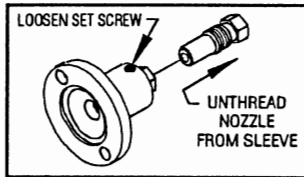
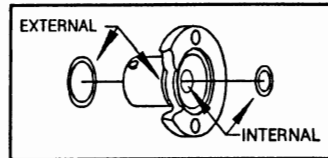
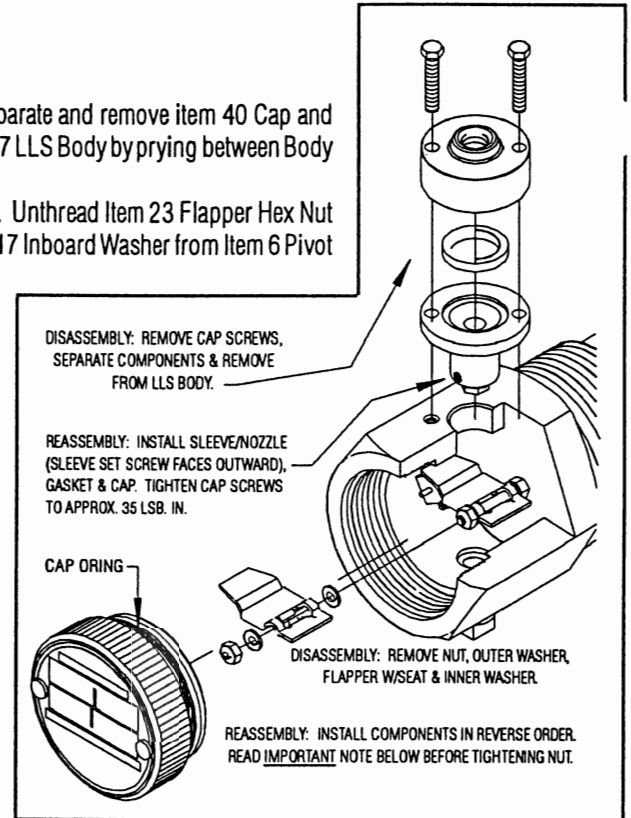

Figure 26. Nozzle removal
Figure 27. Sleeve Orings removal/installation
Figure 25. Block & Bleed Valve disassembly/reassembly with LLS Body
- As shown in Figure 25, loosen and remove Item 41 Cap Screws then separate and remove item 40 Cap and Item 39 Gasket from Item 24 Sleeve. Remove Sleeve Assembly from item 37 LLS Body by prying between Body Surface and Sleeve Flange with a flat tip screwdriver.
- Remove Item 8 Cap from LLS Body then remove Item 15 Oring from Cap. Unthread Item 23 Flapper Hex Nut and remove item 17 Outboard Washer, item 38 Flapper with Seat and Item 17 Inboard Washer from Item 6 Pivot Pin.
- With a 1/16" hex (allen) wrench loosen Item 25 Set Screw then unthread and remove Item 26 Nozzle from Sleeve as shown in Figure 26.
- Remove Item 13 External Oring and Item 36 Internal Oring from Sleeve (figure 27).
- As shown in Figure 25, onto Flapper Pivot pin install Item 17 inboard Washer, Item 38 Flapper with Seat, Item 17 Outboard Washer and Item 23 Flapper Hex Nut.
- Install Item 36 Internal Oring and Item 13 External Oring into Grooves of Item 24 sleeve as shown in Figure 27. Install Item 15 Oring into Groove of Item 8 Cap as shown in Figure 25. Inspect; Orings must not be spirally twisted. Apply lubricant to the exposed Surfaces of Orings and unthreaded Shank portion of Item 26 Nozzle.
- As shown in Figure 25, into Top Bore of LLS Body install Sleeve/Nozzle Assembly (with Item 25 Set Screw oriented OUTWARD for access) followed by Item 39 Gasket and Item 40 Cap. Align bolt holes with those of LLS Body, install Item 41 Cap Screws and tighten to approximately 35 lbs. in.